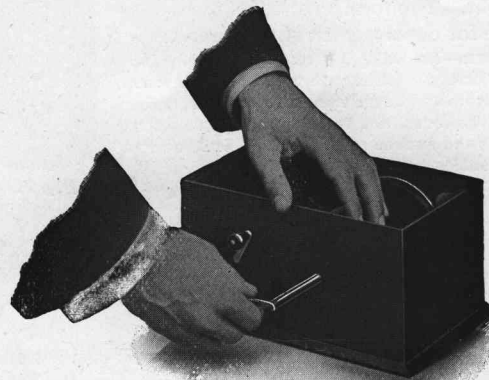

Fig. 6.
10. Now remove cover from box and draw out axle "D" (Fig. 6), holding apron and duplex paper with other hand to keep end of apron from loosening.